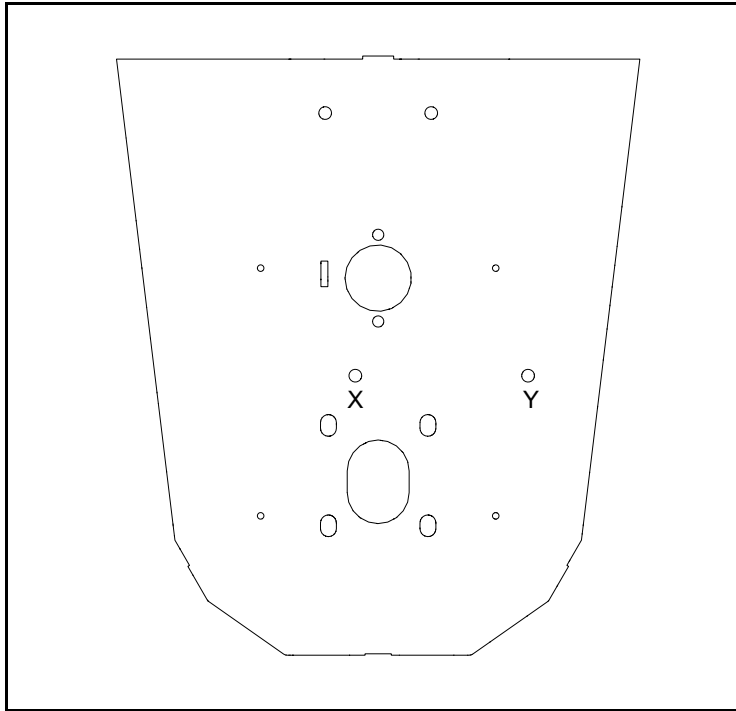

Figure 1 Locating Reverser Bolt Holes
1. Locate mounting holes “X” and “Y” (see Figure 1). Knock the steel plugs out of these holes using a punch and hammer.